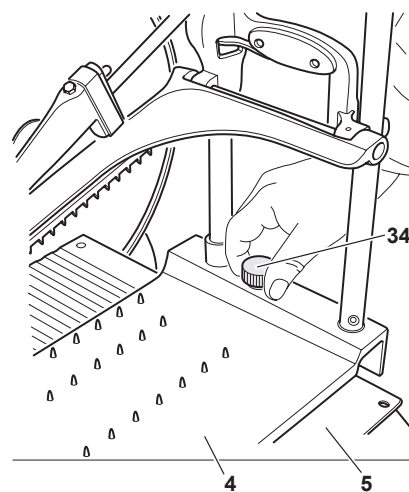

Figure 15-4
- Tighten knob (34) on product holder (4) to secure product holder and pusher (3) to carriage (5) (Figure 15-4).